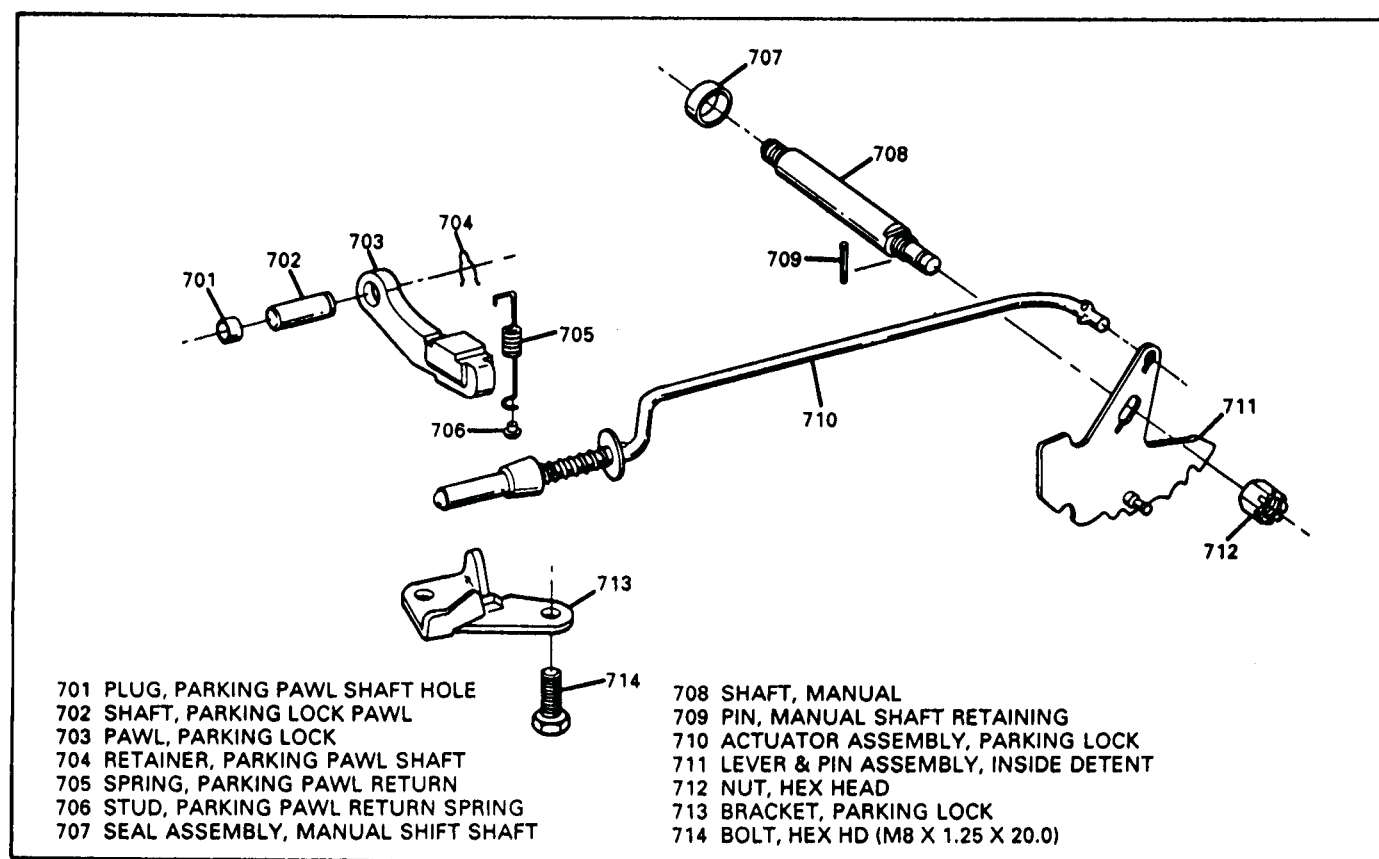

Figure 43
28. If removal is necessary, use Figure 43 for procedure.